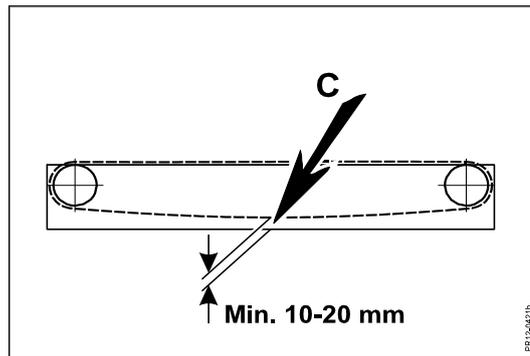

Fig. 4-4
- Fig. 4-4 The belt is tightened correctly when the carriers have 10-20 mm to the lower edge of **the lower front guard**. Tighten the counter nut again when the belt is tightened correctly.